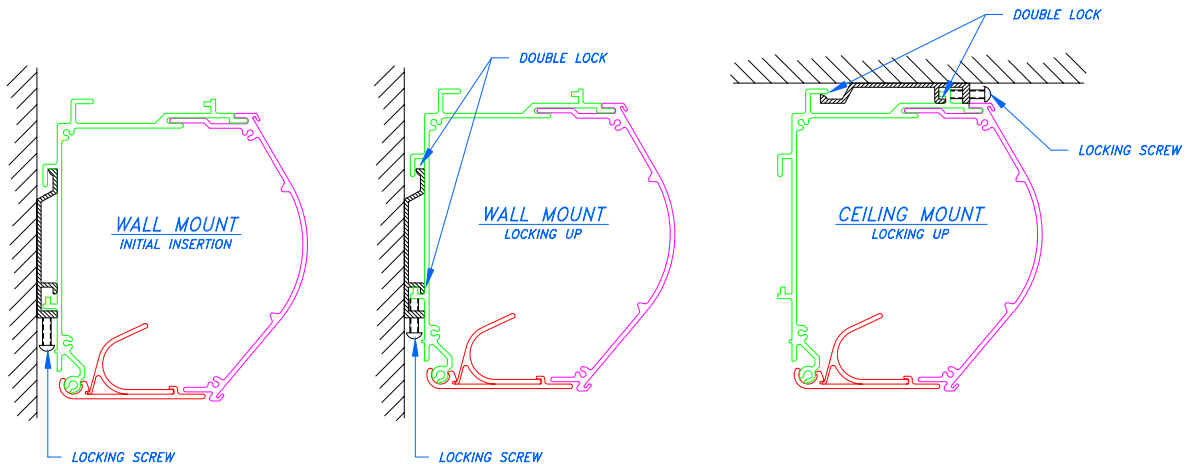
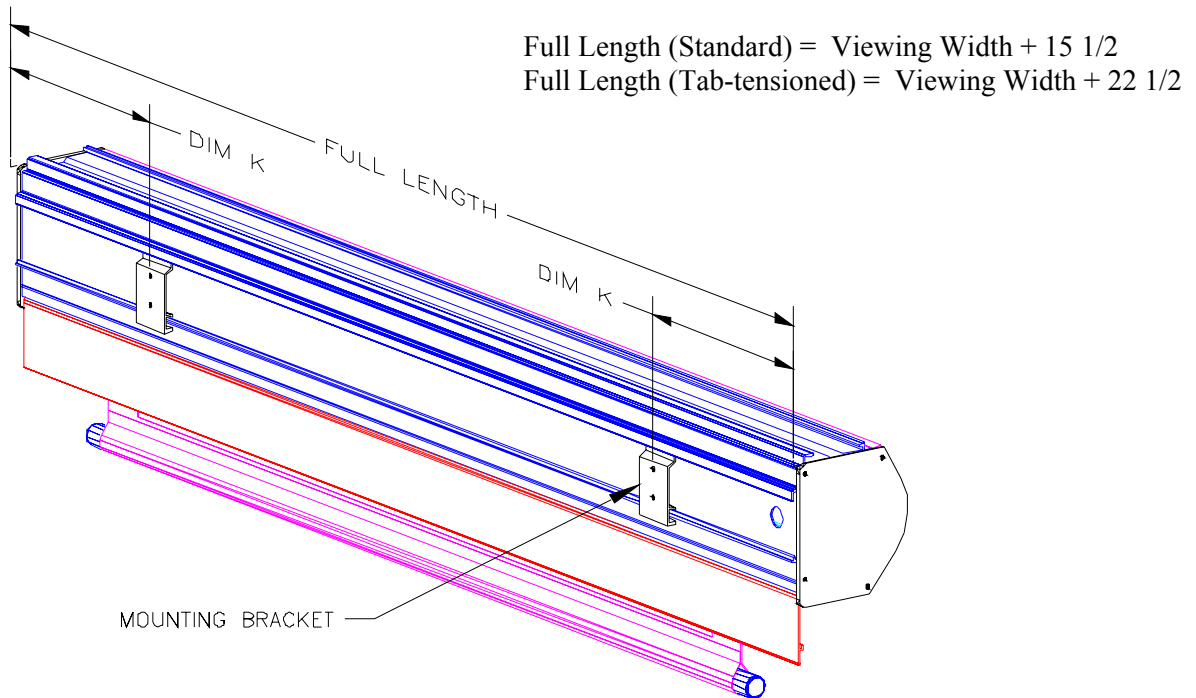

Figure 1
Figure 2
The *VISION XL* or *XLI* screen designed to be mounted to the wall or the ceiling as shown in Figure 1. Each screen unit comes with two mounting brackets and mounting screws. For optimum weight distribution, the mounting brackets should be located a 1/4 of the housing length from each ends of the housing (see Figure 2). Where possible, the mounting screws should be attached to rigid structural members. If this is not possible, suitable wall anchors or other mounting methods must be considered.
3. Install the mounting brackets to the wall or the ceiling. Dim K should be 1/6 to 1/8 of the full housing length in from each end (see Figure 2). Tighten all screws.